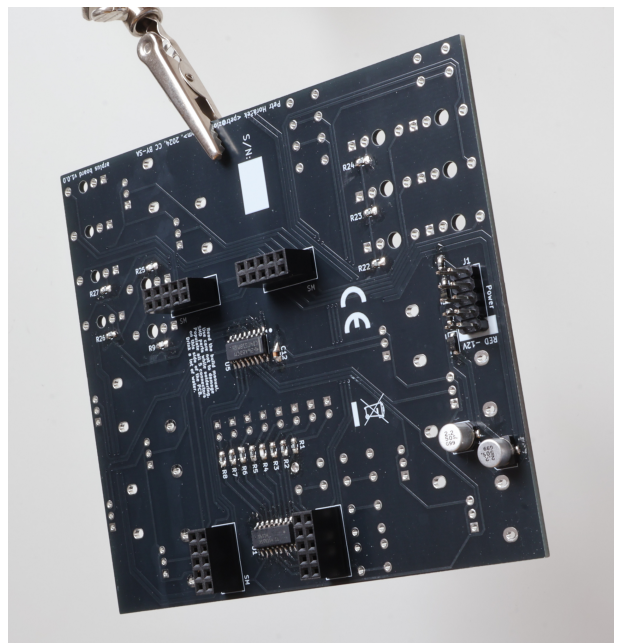

Figure 3: The power and submodule connectors
4. Once done, carefully detach Daisy Patch Submodule to prevent it from getting damaged while progressing with the build. It may be a little difficult. Pull each connector by a millimeter at a time. The result is illustrated in Figure 3.